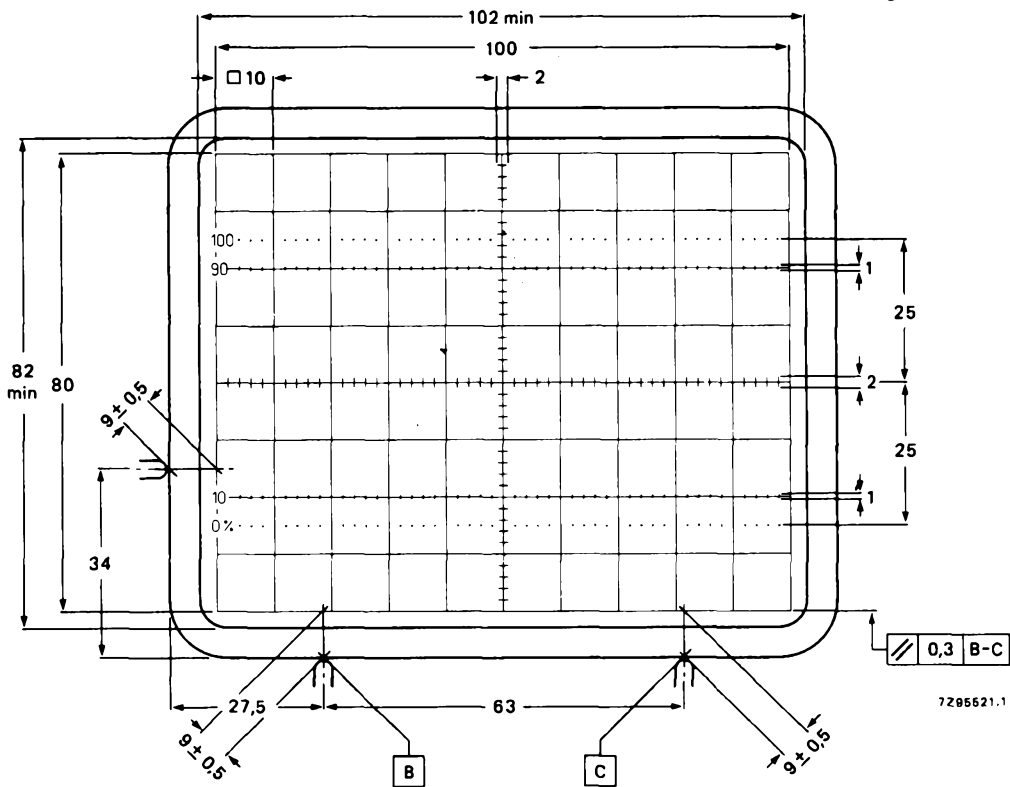

Fig. 5 Front view of tube with internal graticule, type 123. The faceplate reference points are used for aligning the graticule with the faceplate.
4. Reference points on faceplate for graticule alignment (see Fig. 5).
1. As the frit seal is visible through the faceplate, and not necessarily aligned with the internal graticule, application of an external passe-partout with open area of max. 102 mm x 82 mm is recommended. The internal graticule is aligned with the faceplate by using the faceplate reference points (see Fig. 5).